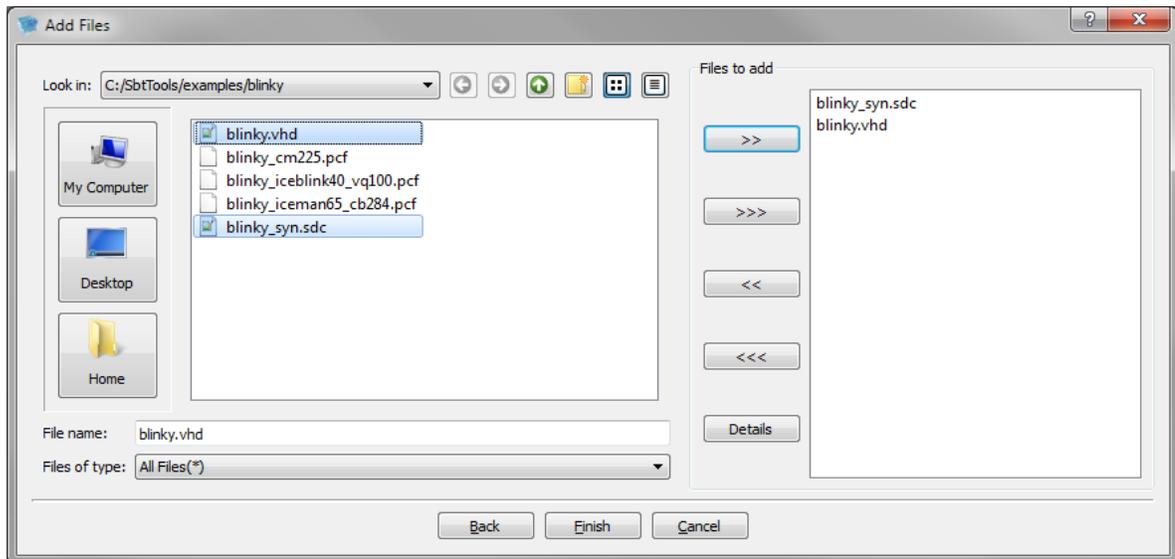

Figure 4: New Project Wizard – Add Files dialog box
8. Click Next to go to the Add Files dialog box shown in Figure 4. You will be prompted to create a new project directory. Click Yes.